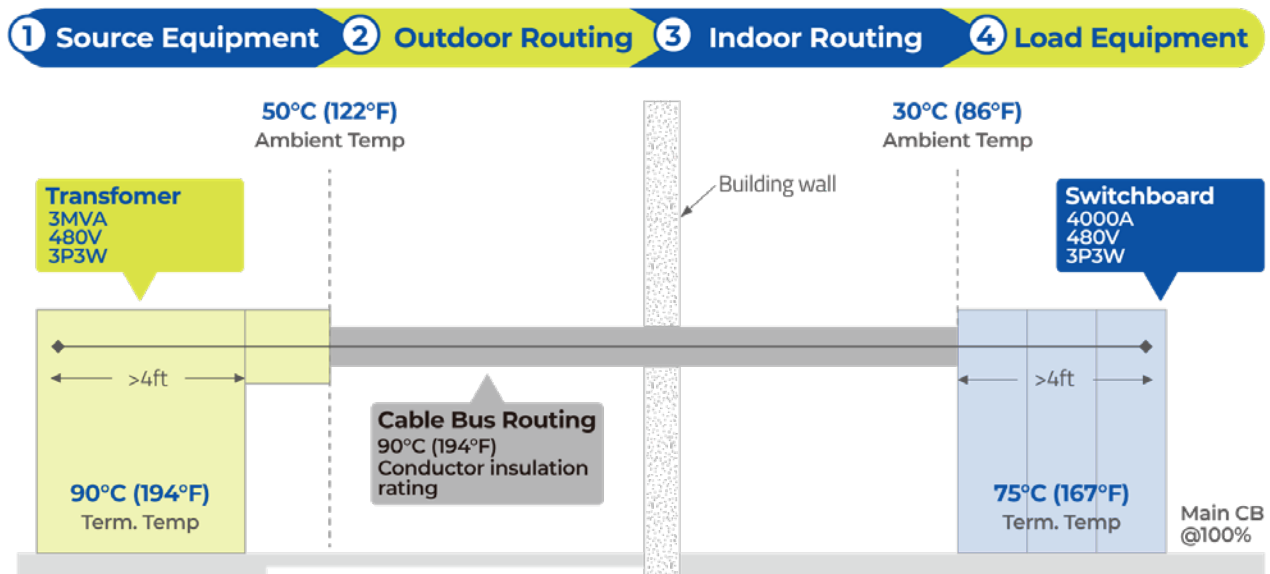

Figure 1. Cable bus sizing breakdown per section
See figure 1, for a typical cable bus installation. This example shows a cable bus connecting the secondary of a transformer to the switchboard inside the electrical room. This will show the equipment temperature rating for both equipment as well as the ambient temperatures that the cable bus system will be subjected to.
Let us break this example in (4) four sections (see figure 1):
In this example we have a 3MVA transformer as our source equipment. Using the details provided in the example in Figure 1, we get the following information:
The NEC Table 310.16 and NEC Table 310.17 are both at 30°C (86°F) ambient and will require a temperature correction factor should the ambient temperature be higher than 30°C (86°F) as shown in the NEC Rule 310.15. The ambient temperature present in the outdoor cable bus routing shown in Figure 1, is of 50°C (122°F). We can get the correction factor needed for 50°C (122°F) using the NEC Table 310.15(B)(1), or use the equation shown in NEC 310.15(B). We will use the equation to show you the most appropriate way.
As we extend past the wall penetration into the building, the cable bus will experience a different ambient temperature than the outdoor portion. This section only considers the ambient temperature after entering the building and into the electrical room itself. The ambient temperature specified in Figure 1, is of 30°C (86°F) which is the same as the ambient temperature in both the NEC Table 310.16 and NEC Table 310.17. This means that there is no need for any ambient correction.
This section will focus on the ampacity rating at the switchboard shown in Figure 1, and any codes and rules that apply. Here are some details to note: